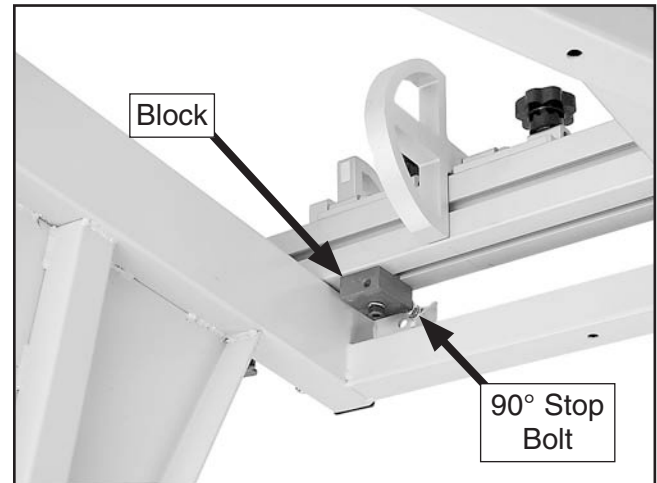

Figure 132. Crosscut fence adjustment cam.
1. Make sure the blade is parallel with the sliding table and that the block on the crosscut fence is resting against the 90° stop bolt (see **Figure 132** for locations).
6. Loosen the hex nut on the 90° stop bolt shown in **Figure 132**, and rotate the 90° stop bolt to square the crosscut fence.